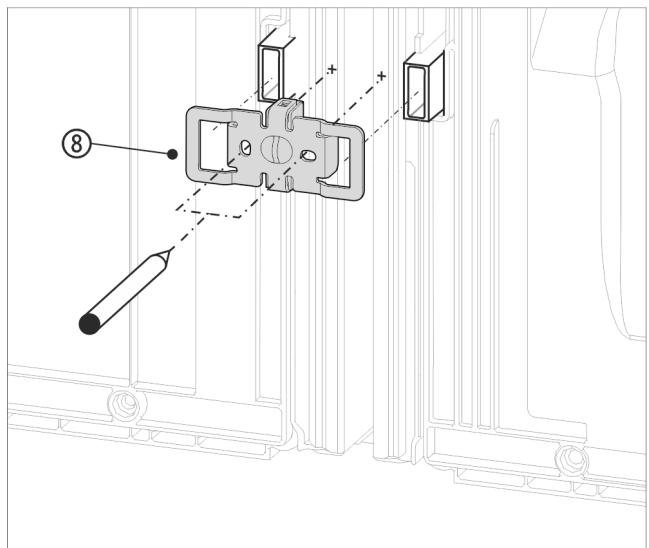

Fig. 14 Example illustration
- Slide the bracket Fig. 14 (8) on with the slots over the retainer for the wall spacers.